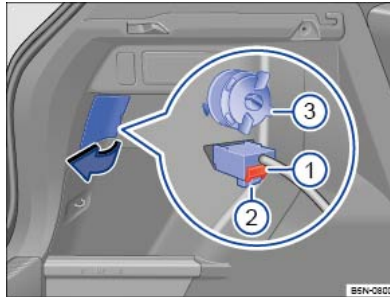

Fig. 207 On the side of the luggage compartment: removing the tail light cluster.
| 3. | Open the section of side trim in the luggage compartment near the tail light cluster in the direction of the arrow ⇒ Fig. 207. |
| 4. | Press the red catch ⇒ Fig. 207 ① on the connector and pull out the connector ⇒ Fig. 207 ②. If necessary, use the screwdriver from the vehicle tool kit to undo the red catch. |
| 5. | Release the securing bolt anticlockwise ⇒ Fig. 207 ③. |
12.	Use one hand to hold the tail light in the fitting position while using the other hand to screw the securing bolt firmly back in $\Rightarrow$ Fig. 207 ③.